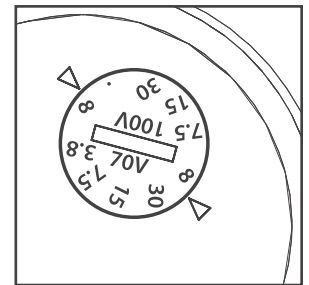

FIGURE 15:
9. Determine the proper wattage setting for each speaker in the installation and set each speaker's transformer tap selector (see figure 15).